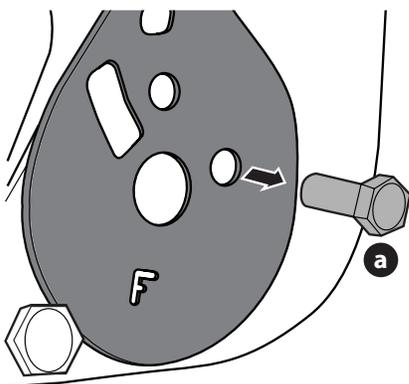

Figure 11
5. Remove the screw (a) securing the recliner plate in the seat back position (Figure 11).